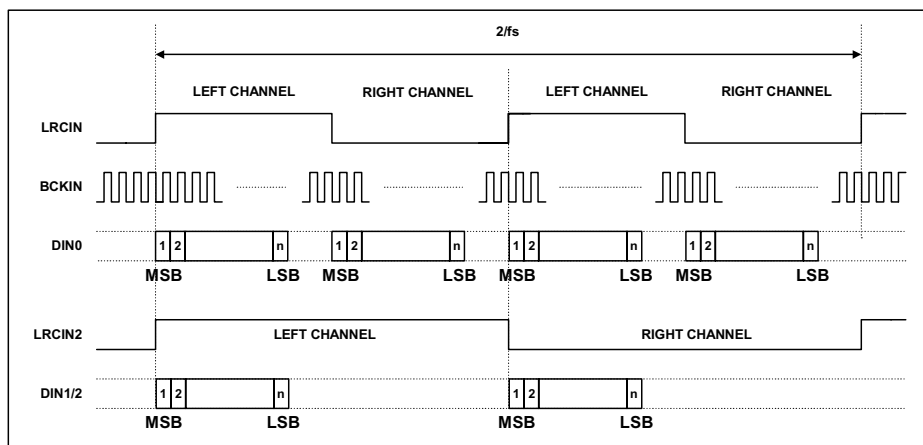

Figure 9 Split Rate Audio Mode Timing Diagram
When running in split rate mode all the channels are clocked in using a common BCKIN; the front channels using LRCIN and all the other channels using LRCIN2 see Figure 9.
- Figure 9 shows the timing for left justified however this is similar for right justified and I^2S .